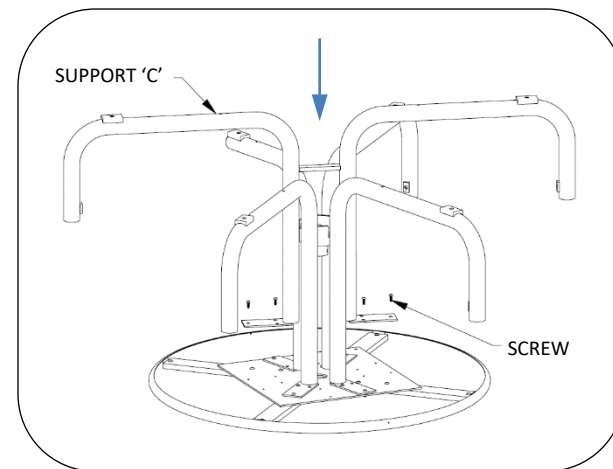

Fig. 5 – Five seat support 'C' install
7. For 5 or 6 seat units, lower support "C" over installed supports. Loosely fasten to tabletop. See Fig 5.